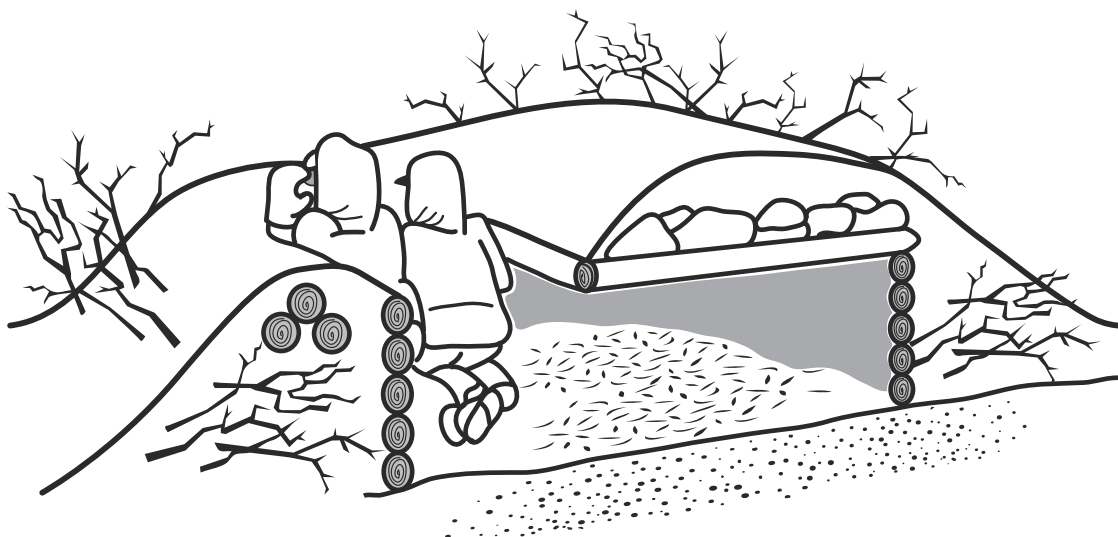

Figure 17-2. Camouflaged Position.
- The sides and ends of all trenches should have pronounced slopes and rounded edges to reduce shadows, as in figure 17-2.